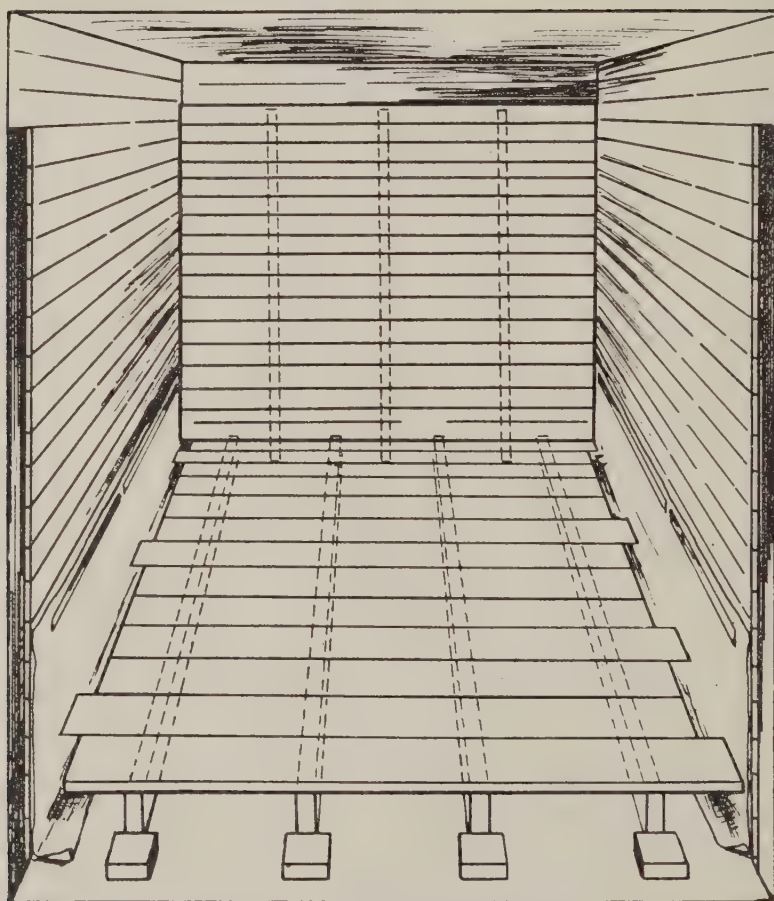
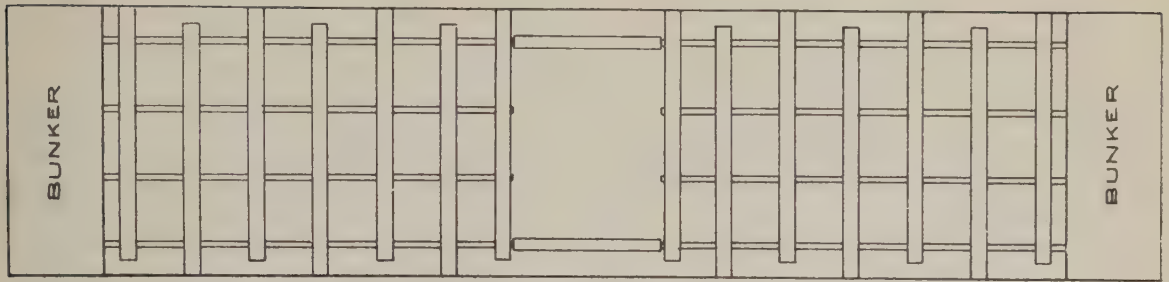
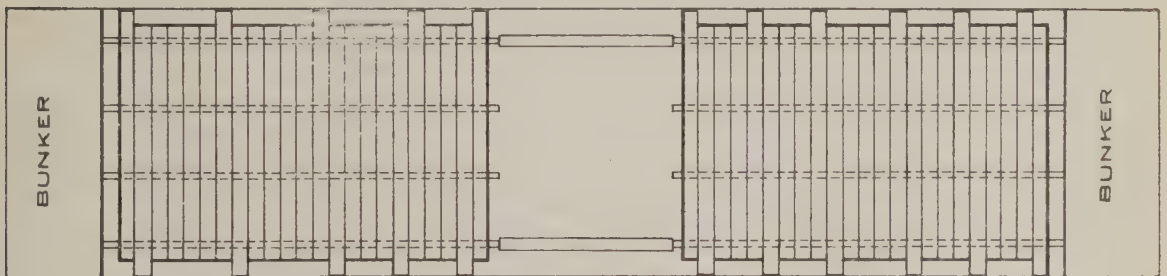
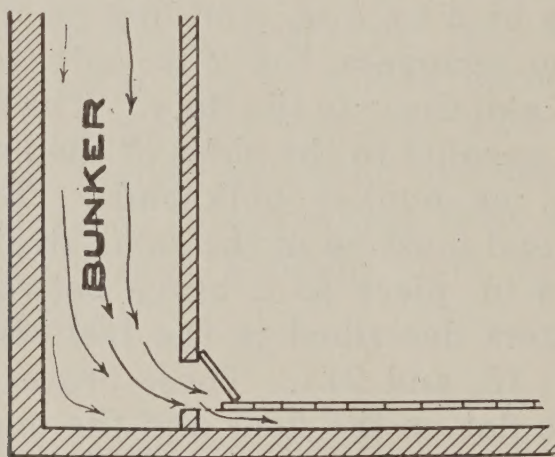

FIG. 16.—False floor (option "b" of paragraph 8) and end wall in produce car.
FIG. 17.—False floor supports (option "a" of paragraph 8).
FIG. 18.—False floor (option "b" of paragraph 8).
FIG. 22.—Keep this space open.
7. Nail 1 in. boards to the studding at the end of the car (fig. 16). These boards should form a solid, tight false wall from the floor stringers to the top of the studding and should extend to about 8 inches below the ceiling.
8. (a) Nail sufficient 1 in. boards, or thicker, across the stringers (fig. 17), spaced so as to support the false floor; or (b) make the false floor entirely of one layer of boards cross-wise on the stringers as illustrated in figure 18, in which case no space should be left between the boards. Cars already equipped with 4 in. false floors with stringers running length-wise do not require, of course, any additional false floor.
9. If option "b" in paragraph 8 above is used, nail lengths of  $1\frac{1}{2}$  in. boards on the supports, making a tight, false floor from the false end wall to about even with the doorposts (fig. 18). *Note:* If the potatoes are to be shipped in bulk, the false end walls (described in paragraph 7) must fit tightly against the car side walls (fig. 16).
4. Fit a 2 by 4 in. piece as a brace between each of the two sets of stringers described in the last sentence of paragraph 3 (figs. 17, 18, and 21). These braces should be laid with the 4 in. side flat on the floor and the ends securely toenailed to the stringers. Do not nail these to the floor.
5. Nail good 1½ in. boards, or heavier, across the stringers, making a solid false floor from the door posts to within 6 inches of the ice bunker bulkheads (fig. 18). It is important that this 6-inch space between the ends of the false floors and the bulkheads be left. This is shown in figure 22. Each board must be well nailed to all four stringers to keep them from turning on side. At least occasional boards must extend to each side wall to keep the false floor from shifting sidewise.
to give this protection at the bulkheads, care must be taken to leave the opening for ventilation 4 inches in the clear from the bunker through the ventilation opening and under the false floor (fig. 22).